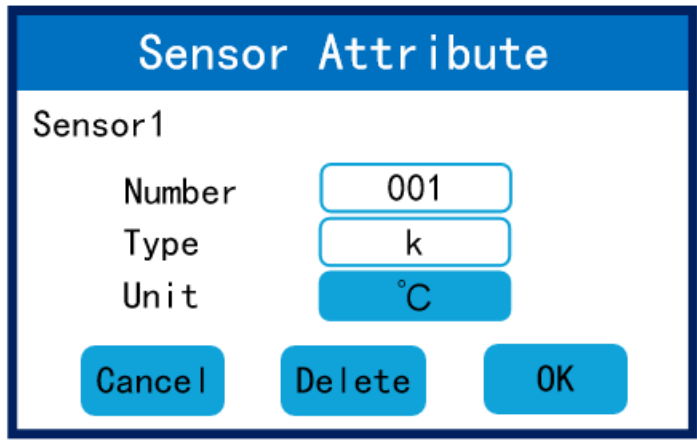

Fig 4.12 Sensor Property Editing
- ①. File name: a maximum of 16 Characters (one Chinese character equals two English characters). The file name will be displayed in the file record list at the same time. The file name must be entered, otherwise save action is invalid;
- ②. Delete and save: delete or save all input information in the file;
- ③. Left and right page turning: a file can save up to 6 sensor information, turn the right page will display sensor 4 sensor 5, sensor 6;
- ④. Up and down page turning: a sensor can save up to 10 temperature setting and measurement data;
- ⑤. Sensor measurement data: click the corresponding area input;
- ⑥. Sensor setting temperature: click the corresponding area input;
- ⑦. Sensor property editing: Click this area to enter the sensor property editing interface, including editing number, indexing number and data unit, as shown in Figure 4.12.